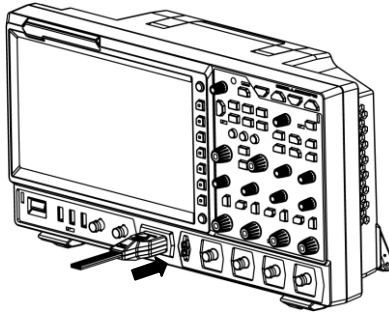

Figure 9 To Connect the Logic Probe
1. Connect the output terminal of the logic probe to the digital channel input terminal on the front panel of the oscilloscope in the correct direction, as shown in Figure 9.